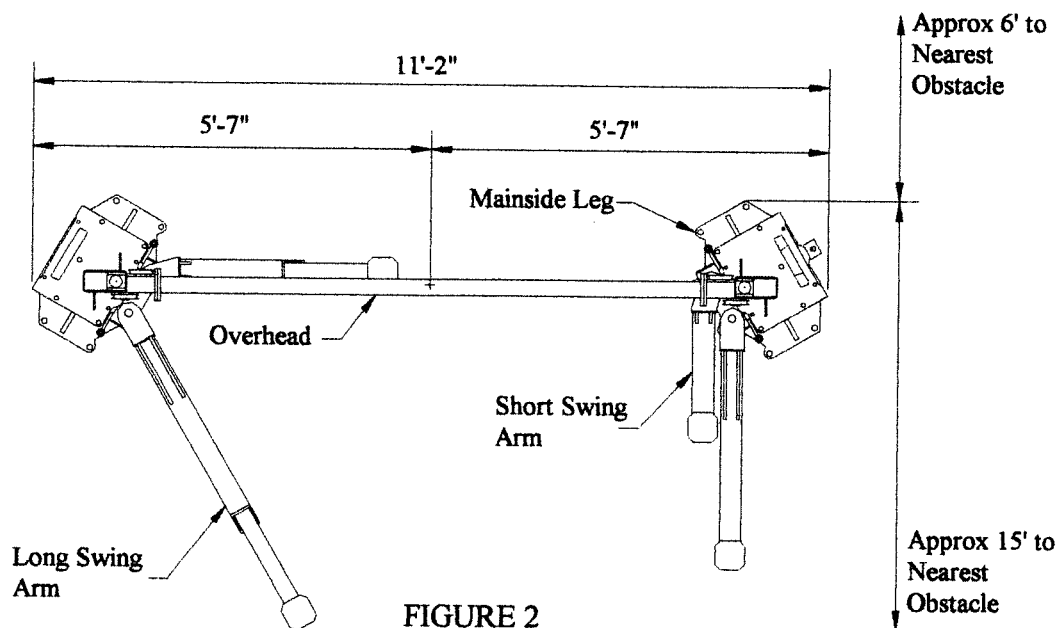

FIGURE 2
4. Refer to Figure 2 to determine where to place the legs in the service bay. The mainside leg holds the power unit. The mainside leg with its power unit is located on the right hand or passenger side of the lift.